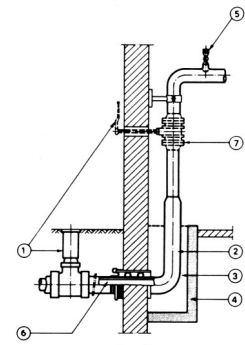

Fig. 13
3.6.3.2 Installing below ground in a building without a basement must, in principle, be carried out in accordance with Fig. 13, or in another way approved by DGP. The pit into which the gas line is lead-in must be designed as e.g. shown in the figure. The concrete box must be ventilated, cast or filled with sand.